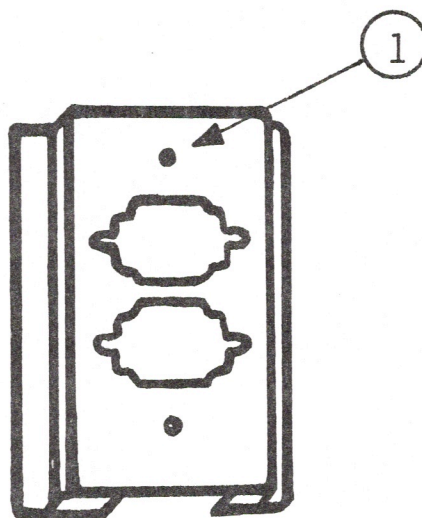

FIGURE 2
2. Find the front piece of the two-piece connector clamp (See Figure 2). The top is the end where the screw hole is nearer the edge (see Figure 2,#1). Put the "D"-shaped connector and nut plate right up against the top opening. The connector should be in direct contact with the clamp, the nut plate should be directly behind the connector, and the part of the connector with the nine small holes in it should be protruding through the opening in the clamp.